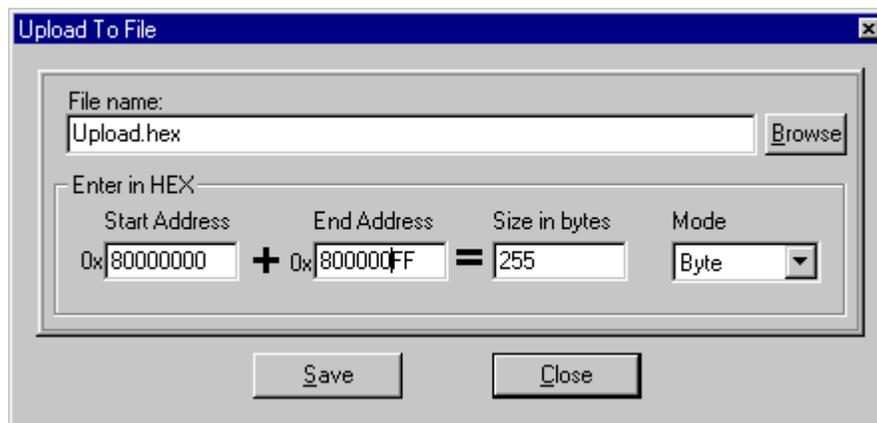

Figure 3-2 Upload To File Dialog Box
- To upload FLASH memory contents to a file in your PC, click on the Upload button. This brings up the Upload To File dialog box, **Figure 3-2**: